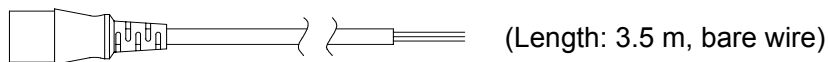

Fig.7-8 AC Power cord for 200V
6. When using 200 VAC power supply, use optional AC power supply cord 200 V (Fig. 7-8: 0311-5112).